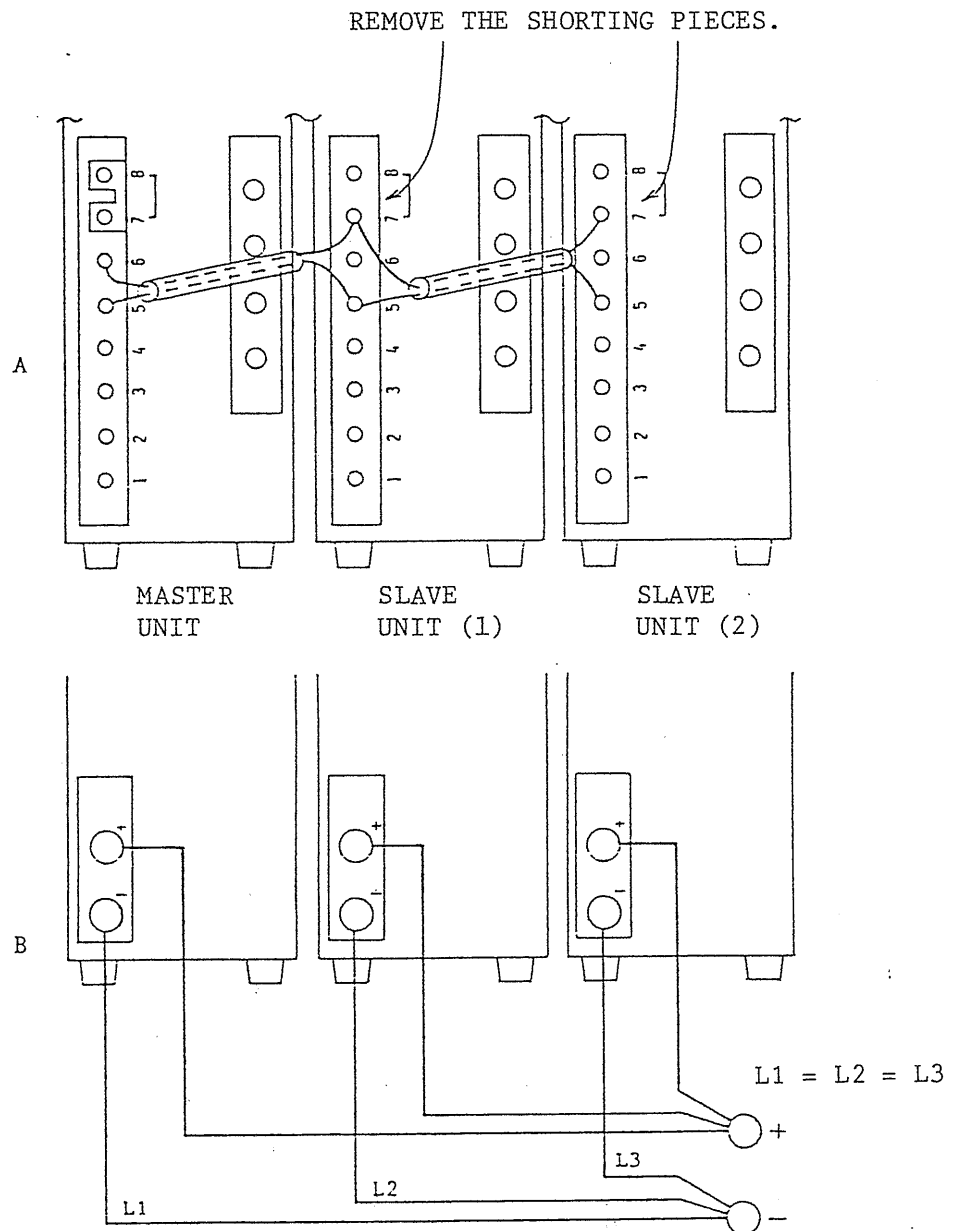

Figure 2-9-1
- When in the constant resistance mode of operation, the loading resistance can be remote-controlled with a resistance signal in the procedure of 2.8 (2).
- Two or more units can be connected in parallel to increase the loading current capacity and the operations of such units can be controlled by controlling only one of the units connected in parallel. (In a master/slave system with the selected one as the master unit and the others as slave units.) For the following explanation, refer to Figure 2-9-1.